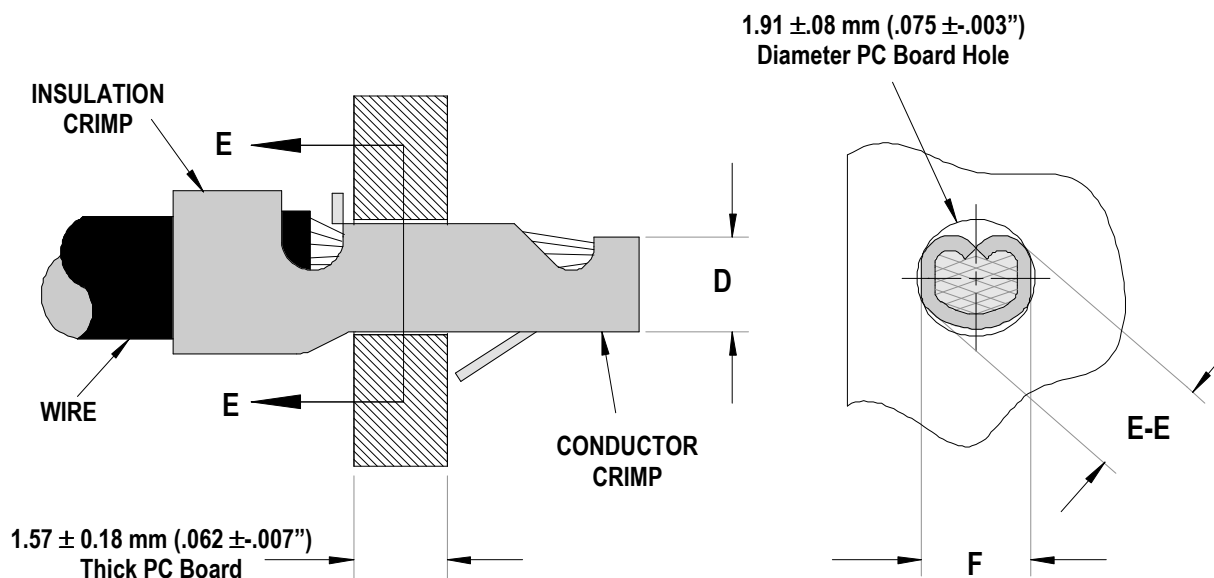
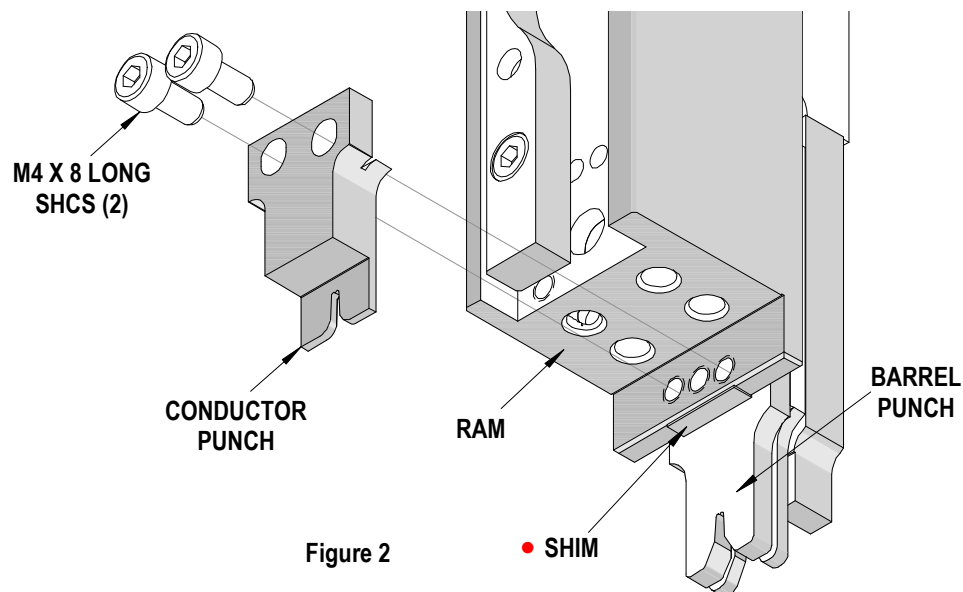

Figure 1
Figure 2
After crimping, the conductor profiles should measure the following (See Figure 1).
| Terminal Series No.                                          | Wire Size |                 | Dimensions (Figure 1) |      |              |           |          |      | Pull Force Minimum(4) |     |
5. To achieve the conductor crimp height (D dimension in Figure 1) for 22 and 24ga wire, a 0.25mm (.010") thick shim is required if your crimp press is not equipped with adjustable shut height. This shim is not supplied with the applicator. The shim should be located between the Ram and the Conductor Punch. See Figure 2.